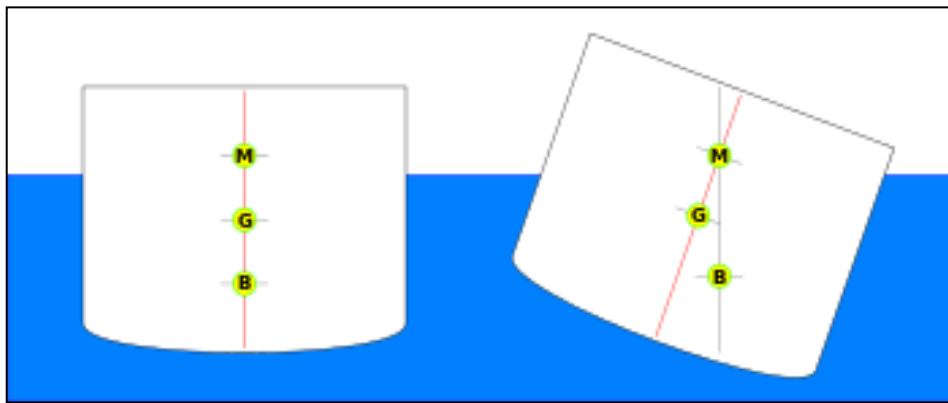

Figure 22. Ship Stability Diagram
Figure 22 shows the ship stability diagram including the center of gravity (G), the center of buoyancy (B), and the metacenter (M) with the ship upright and tilted over to one side.